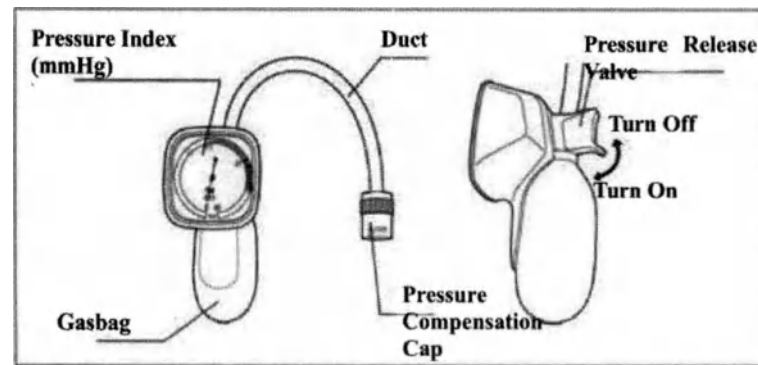

Fig 7.5
During endoscopy leak testing, connect the cap of leakage detector with the leak valve connector of the endoscope handle and press the airbag to check for leakage (Fig 7.5).
Confirm that it is free from scratches, flaws and debris. (See Fig 7.5)
1. Make sure that the leakage detector is without cracks, scratches, flaws, debris and/or other damage. (See Fig 7.5)